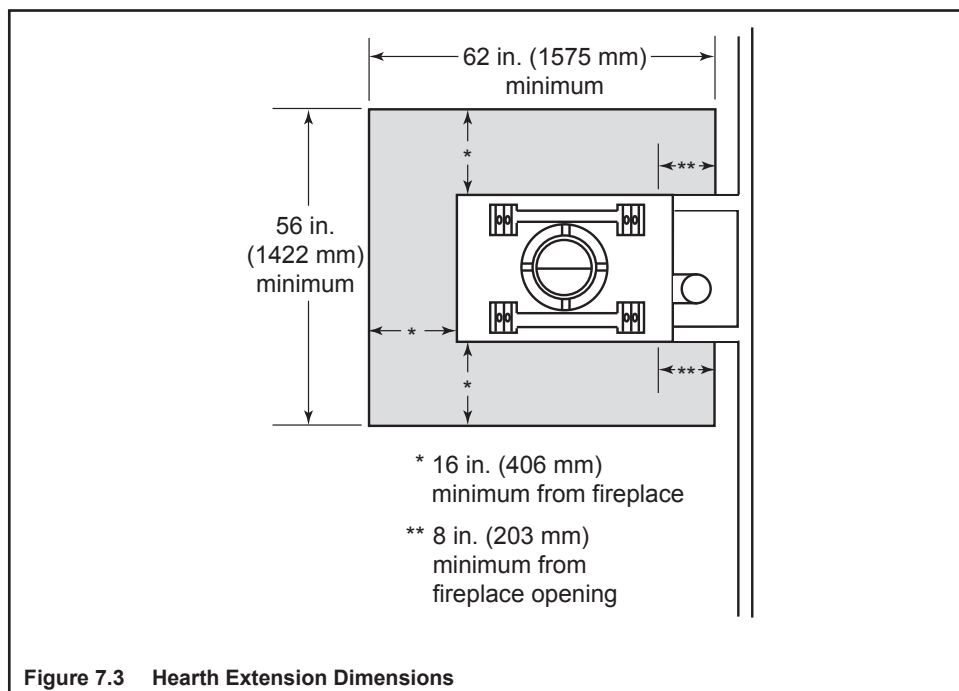

Figure 7.3 Hearth Extension Dimensions
- Refer to Figure 7.3 for minimum dimensions.